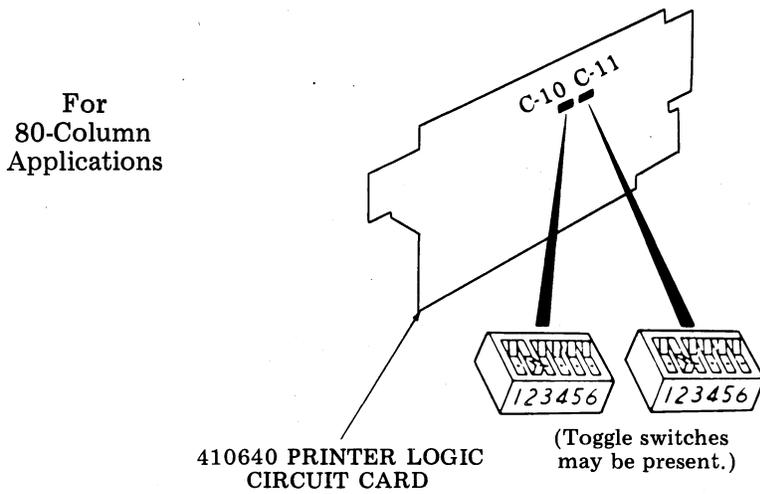

Fig. 104
4.29 Printer Options for 410640 Circuit Card. See Fig. 104.